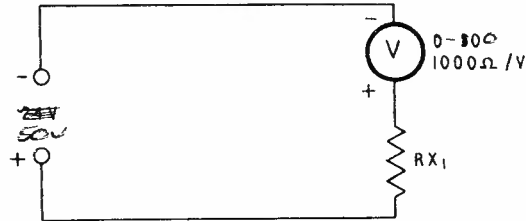

FIG. 1.
STEP 2. Connect the resistor R_{X_1} in series with the voltmeter across the battery, as shown in Fig. 1.